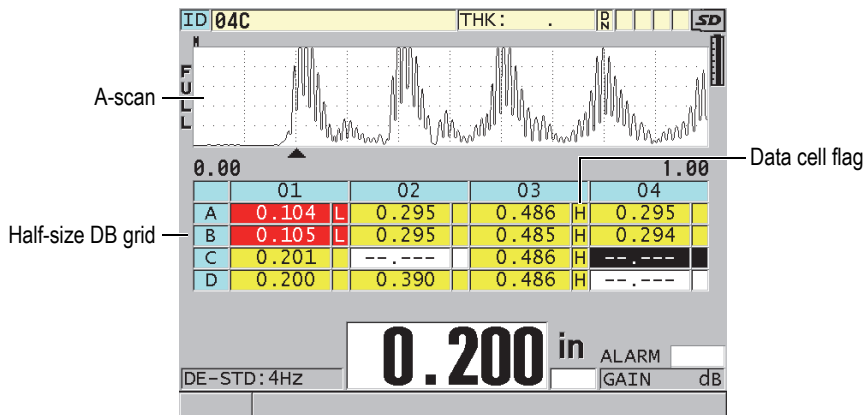

Figure 10-8 Example of the half-size DB grid
The database grid (DB grid) is a table representation of 2-D data. This representation gives you the ability to move freely in any direction on a grid rather than follow a preset list of IDs. Instead of automatically incrementing to the next ID location, you can use the arrow keys to move to a location that is more convenient. You can simultaneously display the A-scan, the DB grid, and the thickness reading (see Figure 10-8 on page 165). You can configure the grid cells to show a data cell flag and a background color corresponding to the range in which their thickness reading falls.
8. Set **DATA CELL FLAG** to one of the available options to display a single data flag with each data cell in the DB grid. The data cell flag is a letter that appears in a small box to the right of the thickness value in the data cell (see Figure 10-8 on page 165). The available options are: